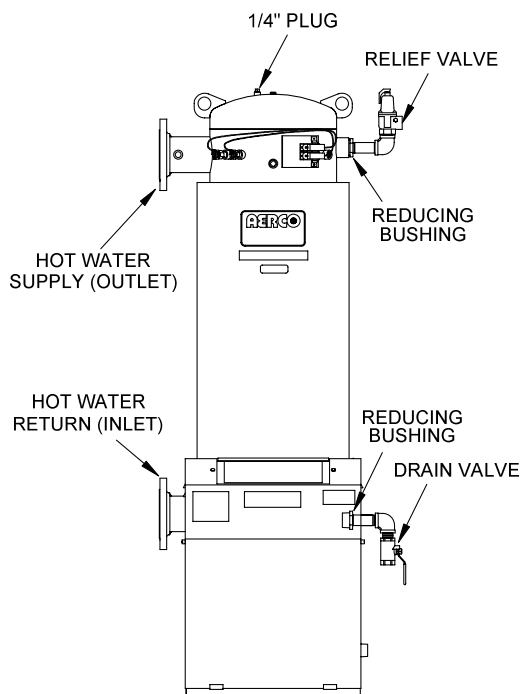

Figure 7.10
2. Close the supply and return valves to the unit (Fig 7.10).
3. Open the drain valve and allow the unit to fully drain. The 1/4 inch plug in the top of the shell may be removed to aid in drainage or the relief valve may be opened (Fig 7.10).
5. Remove the relief valve, drain valve (Fig. 7.10) and any reducing bushings.